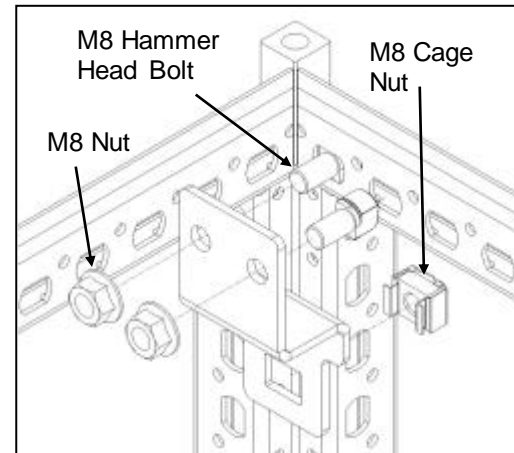

Figure 2
2. To install the top support brackets (left and right unique) on both sides of rear cabinet frame, insert M8 Hammer Head Bolts into Double-D Cam Hole and rotate 90 degrees to engage frame (Figure 2). Attach brackets with M8 serrated flange nuts (torque 372 IN-LB [42 N-M]).
3. Install M8 cage nuts on top support brackets (Figure 2).